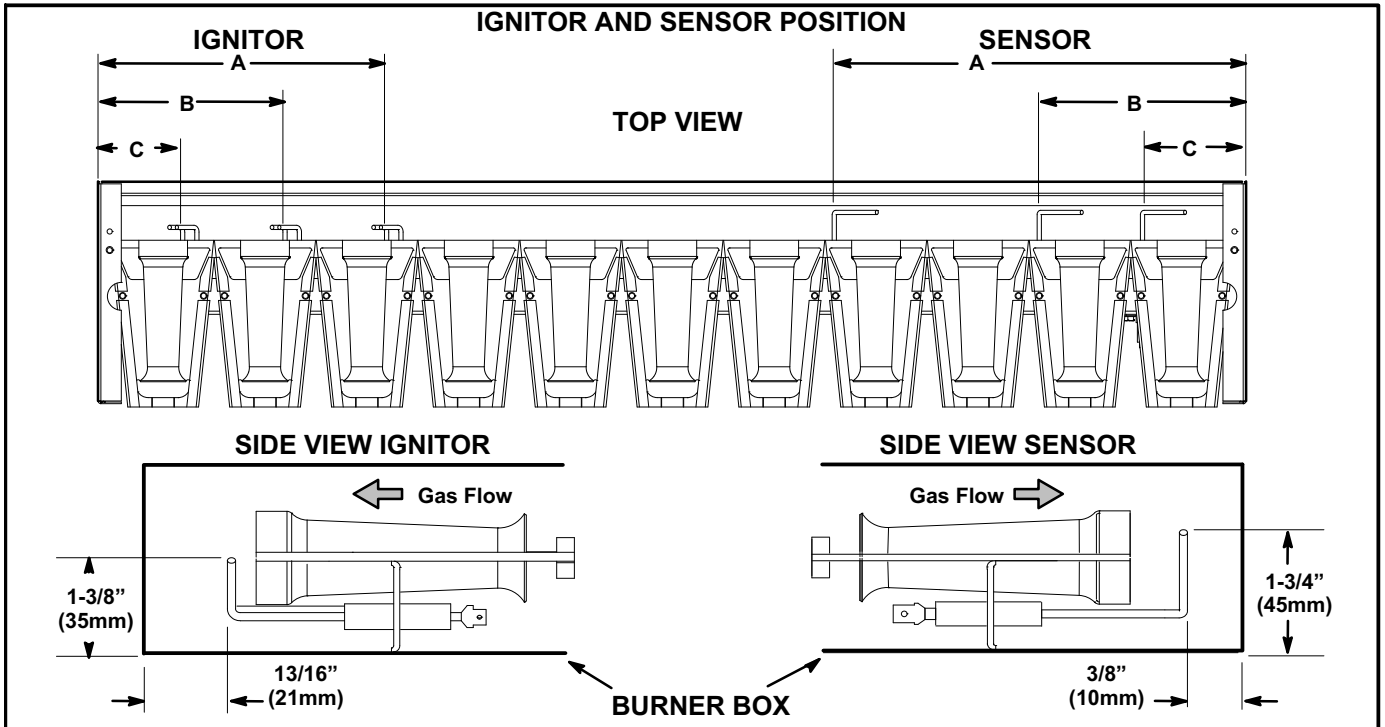

FIGURE 41
- 5- Check the alignment of the ignitor and the sensor as shown in figure 41 and table 38.